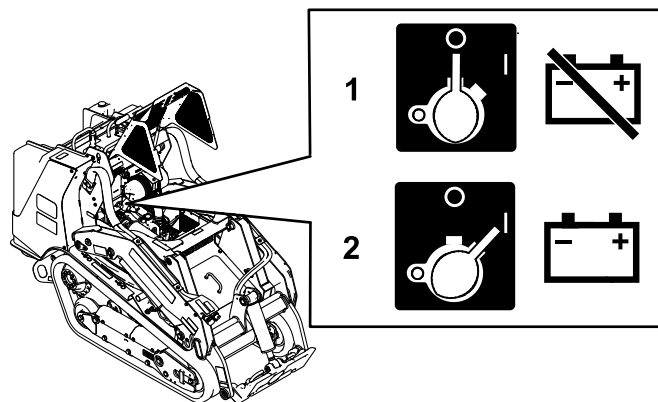

Figure 54
- To energize the machine electrically, rotate the battery-disconnect switch clockwise to the ON position (Figure 54).
- To de-energize the machine electrically, rotate the battery-disconnect switch counterclockwise to the OFF position (Figure 54).